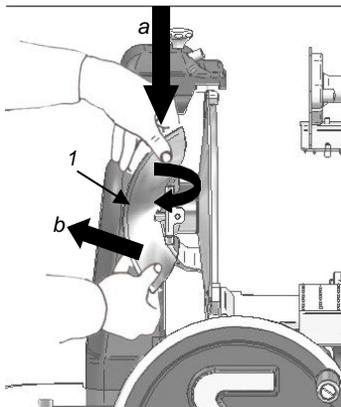

Fig.53
- Press the slice deflector down (Fig. 53 det.a), move the lower part outwards (Fig.53 det.b) and then release the slice deflector from the upper fulcrum.